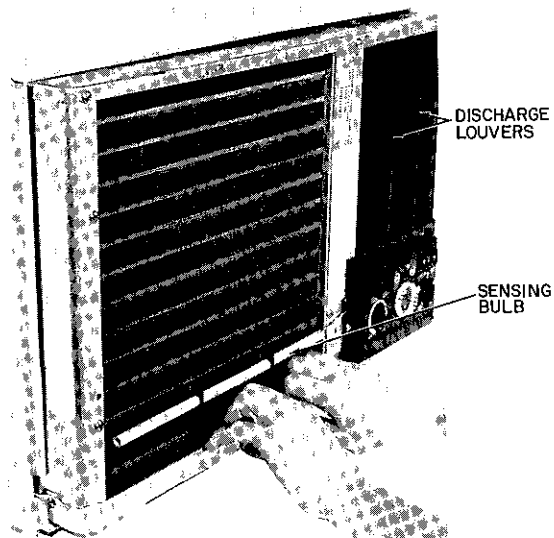

Fig. 29 — Sliding Chassis Out of Casing
- e Remove sensing bulb from coil face. See Fig 29.
- c Slide chassis out of casing See Fig 29
- a Remove chassis from casing See Chassis Instructions and Fig 29
a Remove chassis from casing Refer to Chassis instructions and Fig 29
j To remove discharge louvers, flex and remove pin from bottom hole Turn louver and pivot bottom upward to remove from top hole See Fig 29 and 34
- a Remove chassis from casing. See Chassis instructions and Fig 29